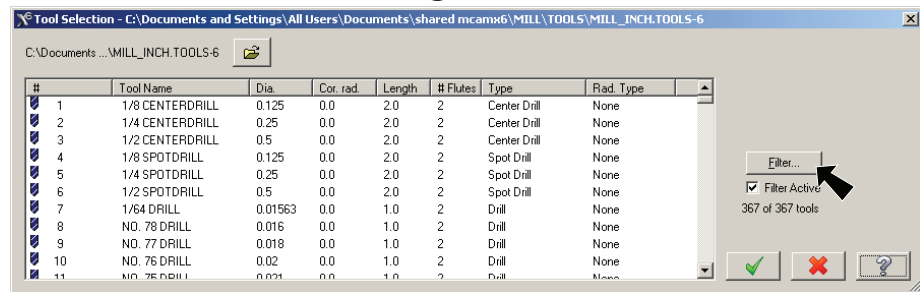

Fig. 11
Step 12. Click the **Filter** button, **Fig. 11**.